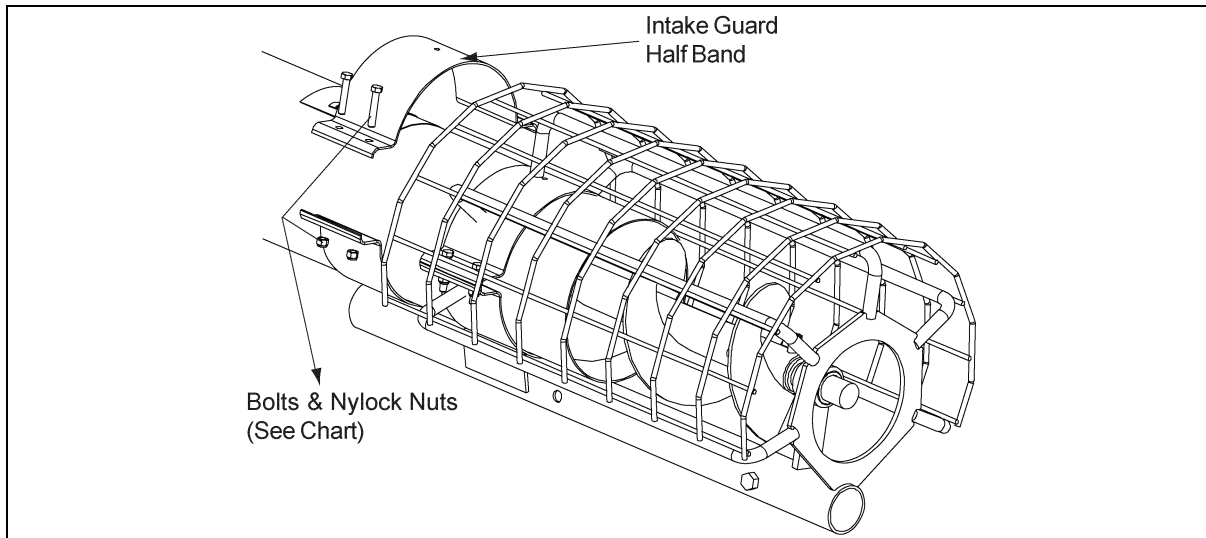

Figure 4Y
- D. Place Intake Guard Half Band above the lower half band on the Intake Guard and attach using proper hex bolts and Nylock nuts. (See Chart Above), (See Figure 4Y).